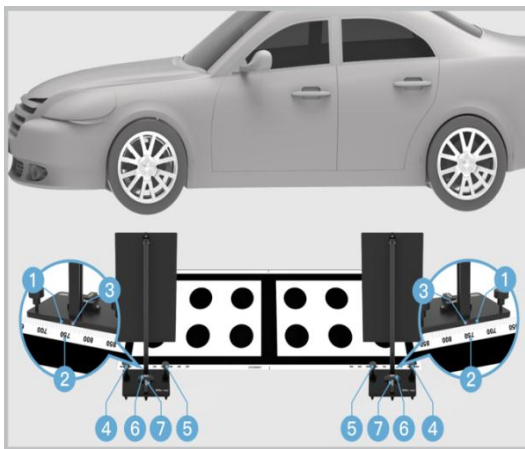

Figure 3-51 Position and Adjust the Calibration Tools
3. Place the two assembled calibration tools in the position shown in Figure 3-51. Ensure the side (①) with marked line on the base of the target board holder attaches to the edge of the ruler (②) on the pattern.
4. Move the target board holder left or right to aim the marked line (③) at 775 on the ruler (②).
5. Rotate the bolts (④) and (⑤) so that the bubbles in the bubble levels (⑥) and (⑦) are centered.